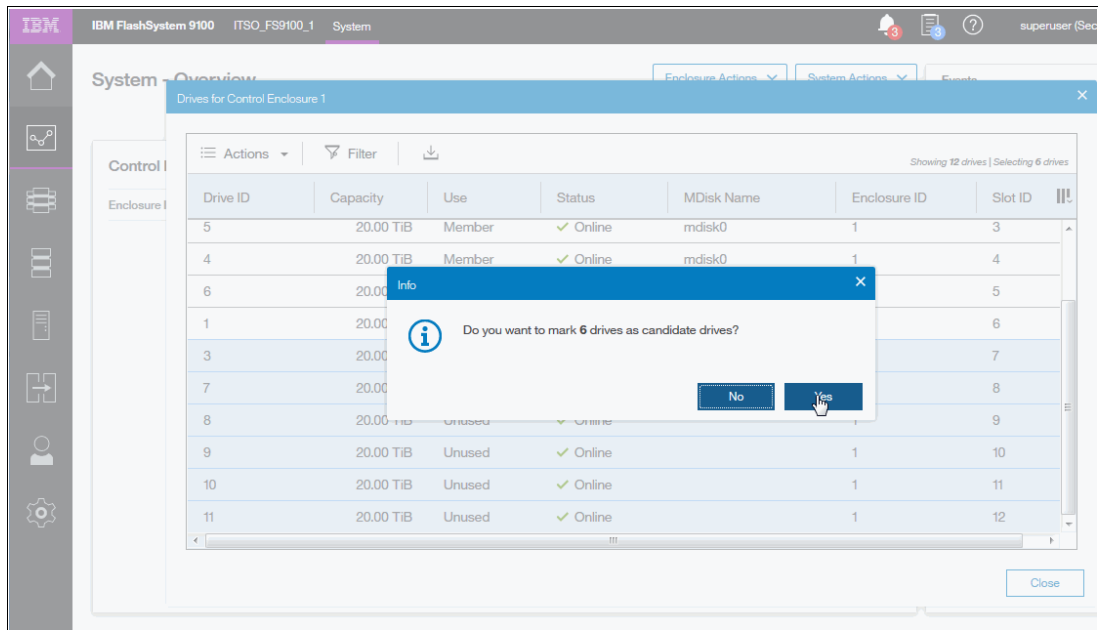

Figure 5-17 Setting drives to a Candidate state
4. Click **Yes** to assign the drives to candidate use, as shown in Figure 5-17.